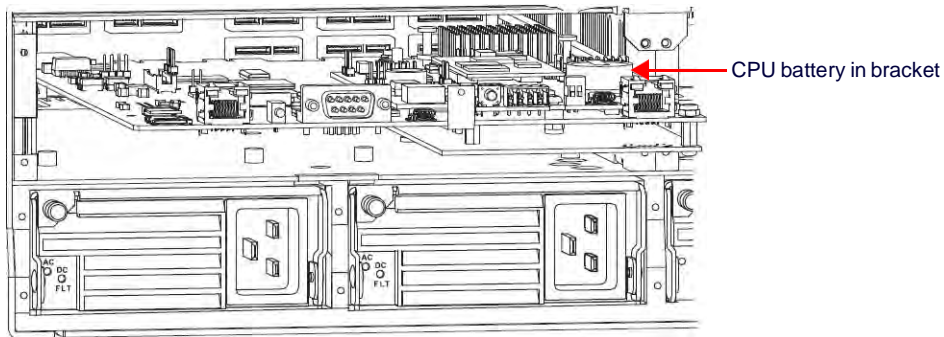

FIG. 151 CPU battery bracket
7. Locate the CPU battery on top of the CPU (FIG. 151):